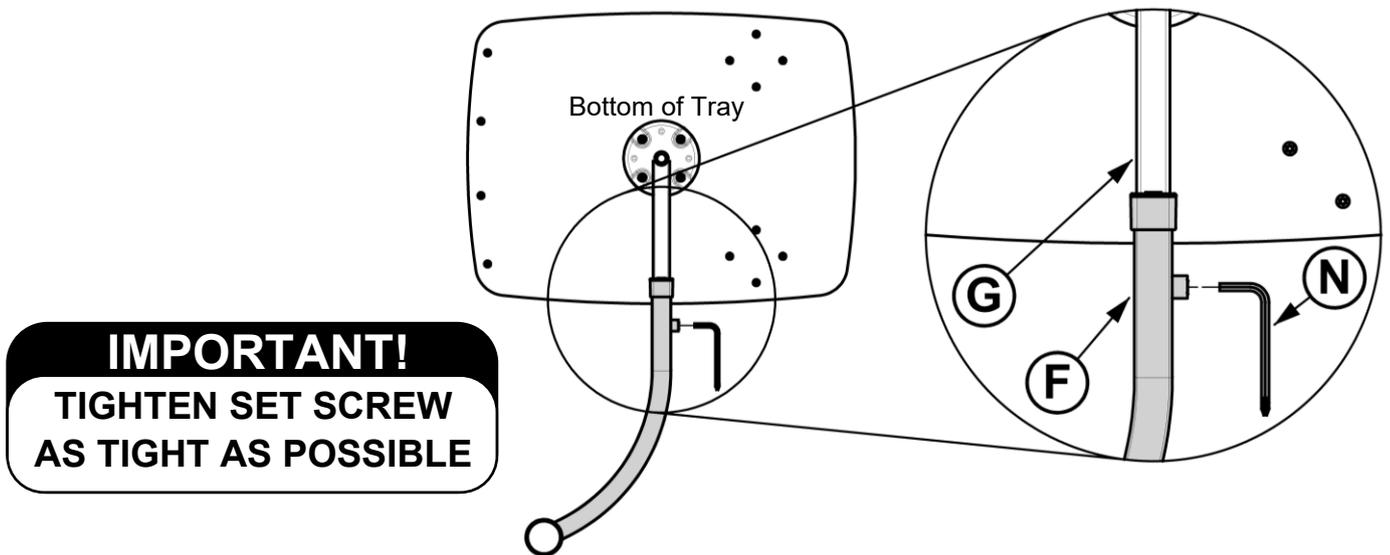

FIGURE 25
25. While keeping the MAX marking covered, tighten the Set Screw on Curved Arm F with Tool N, as shown in *FIGURE 25*.